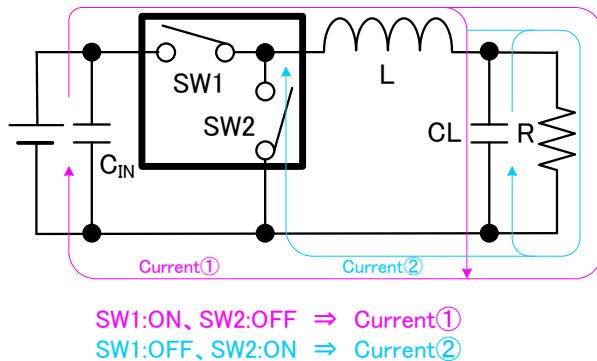

Fig. 6: Current Path of Step-Down DC/DC Converter
The GND wiring appears simple in the circuit diagram, however, in some cases the actual layout on the printed circuit board is very difficult. It is not a matter of simply making connections, because if the connection positions and board layout are bad, the performance of the entire system will be degraded. For example, a step-down DC/DC converter alternately switches switch 1 (SW1) and switch 2 (SW2) ON/OFF, controlling the currents in order to stabilize the output voltage. The currents that flow when this is done are Current (1) and Current (2) (refer to Fig. 6).